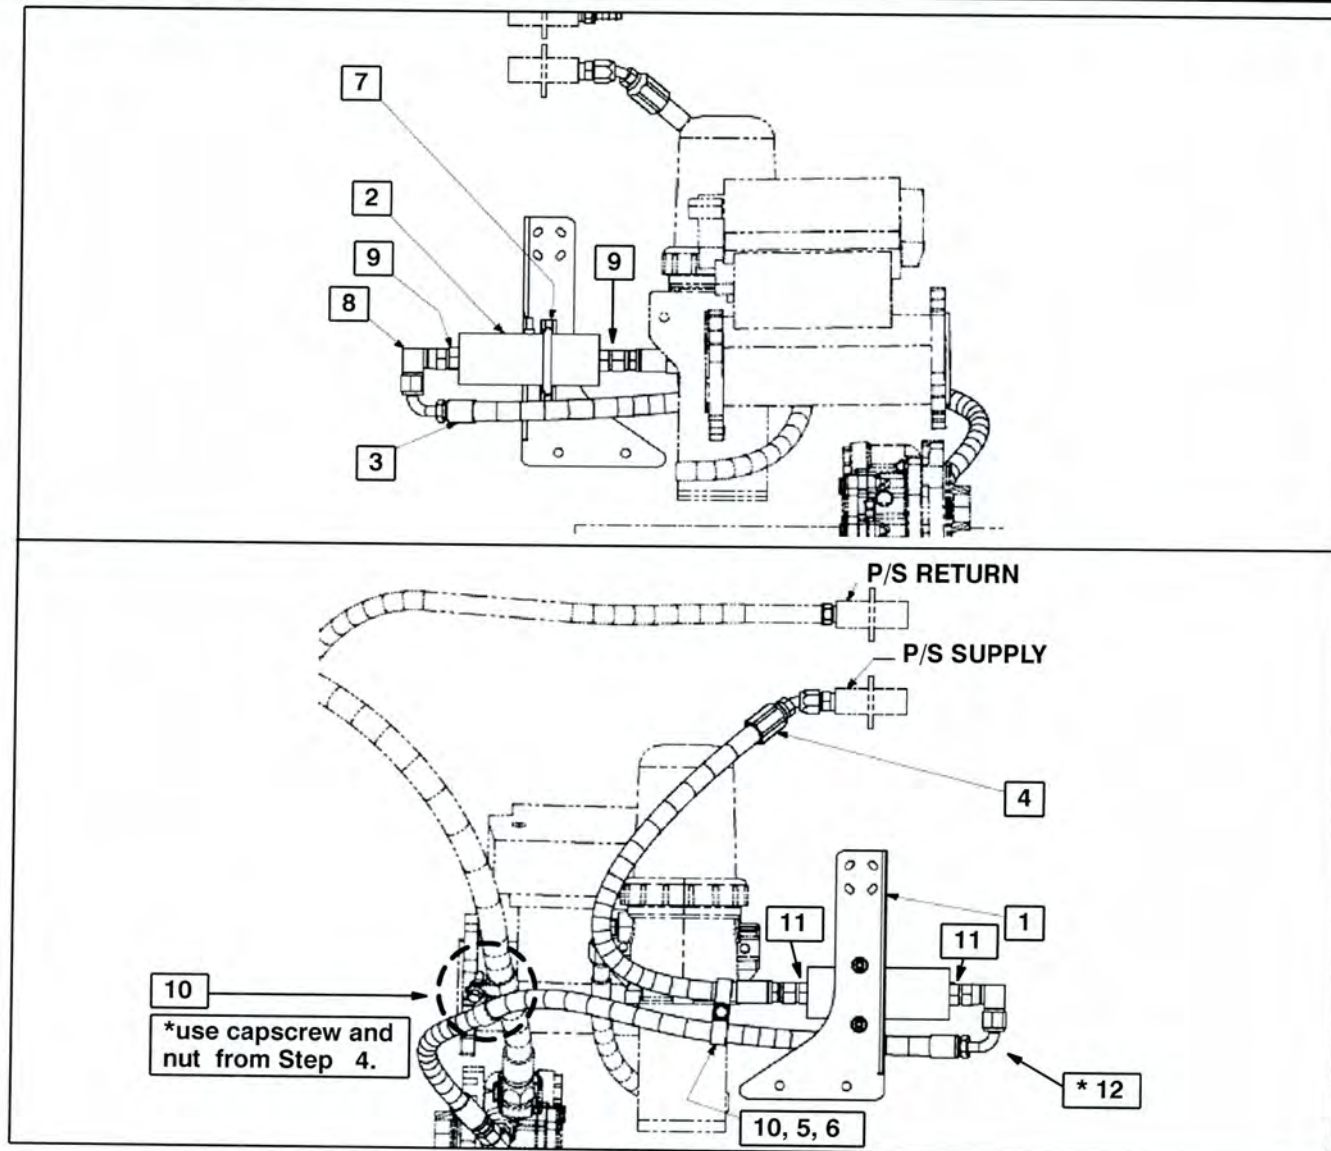

Figure 3.
Coaches equipped with a wheelchair lift should install hose assembly, p/n 11-08-1455, on the workbench to avoid having to deploy the wheelchair lift for installation access (see Figure 3).
7. Using the mounting hardware removed in Step 5, install the new bracket, p/n 03-15-5255 (Figure 3).
8. Using the u-clamp, p/n 19-04-0428, mount the suppressor to the Amerex bracket (refer to Fig 3 to 6).
9. Wipe off any residue and orient the power steering pressure hoses, p/n 11-08-1455 and 11-08-1456, as shown in Figures 3 and 4. Using two (2) wrenches (use one { 1 } as a backing wrench on the fitting), torque the four (4) hose ends to 53–63 ft-lbs.
11. Orient the clamps, p/n 19-4-47, on the hoses as shown in Figures 3, 4 and 5. Using the capscrew, p/n 19-01-1516 and nut, p/n 19-03-0495, secure the clamps together.